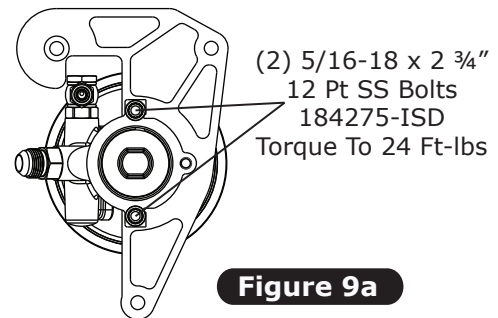

Figure 9a
3. Install power steering pump assembly onto upper bracket using (2) 5/16-18 x 2 3/4" 12 pt SS bolts (See Figure 9a, below).